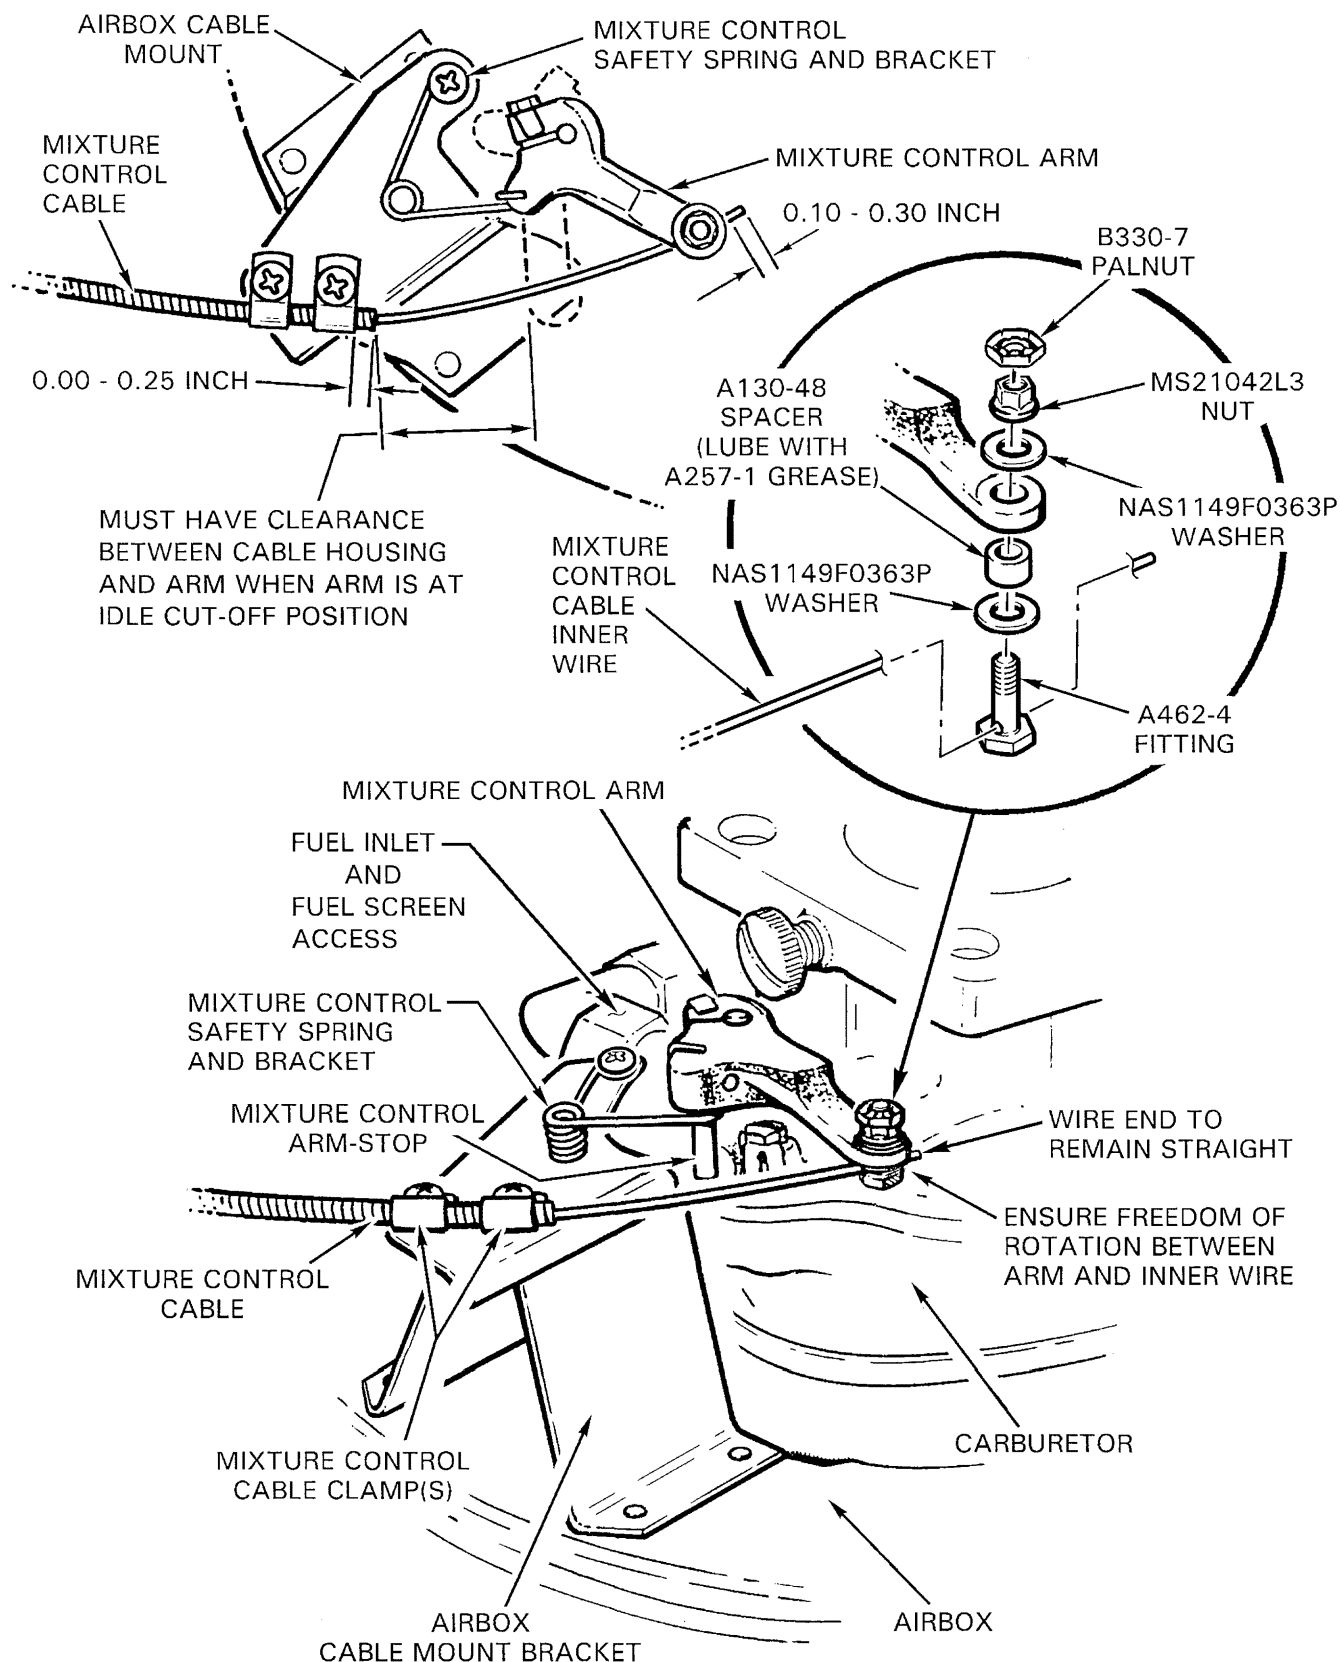

FIGURE 6-7 MIXTURE SAFETY SPRING INSTALLATION
3. See Figure 6-7. Connect mixture control cable housing to air box. Push and pull on cable housing and verify it does not slip in clamp(s).
4. See Figure 6-7. Connect mixture control cable inner wire to mixture control arm. Verify mixture control moves carburetor mixture control arm stop to stop. Verify 0.03/0.10 inch clearance (spring-back) under knob at full-rich position. If required, adjust position of inner wire in A462 fitting. Torque A462 fitting per Section 1.330. Install palnut, torque per Section 1.320, and torque stripe.
3. See Figure 6-7. Connect mixture control cable inner wire to carburetor mixture control arm. Lightly tighten A462 fitting, but do not torque; fitting will be torqued in following step.